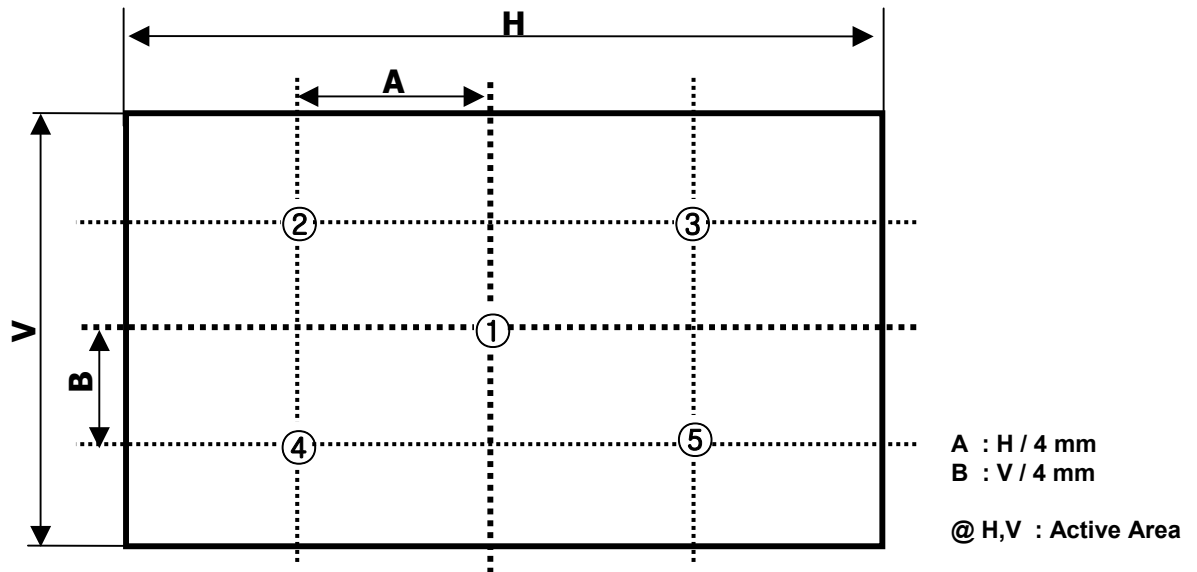

FIG. 2 Measure Point for Luminance
n = the Position number(1, 2, 3, 4, 5). For more information, see FIG 2.
2. Surface luminance are determined after the unit has been 'ON' and 30min after lighting the backlight in a dark environment at $25 \pm 2^\circ\text{C}$. Surface luminance is the luminance value at center 1-point across the LCD surface 50cm from the surface with all pixels displaying white. For more information see the FIG. 2.
For more information, see the FIG. 2.